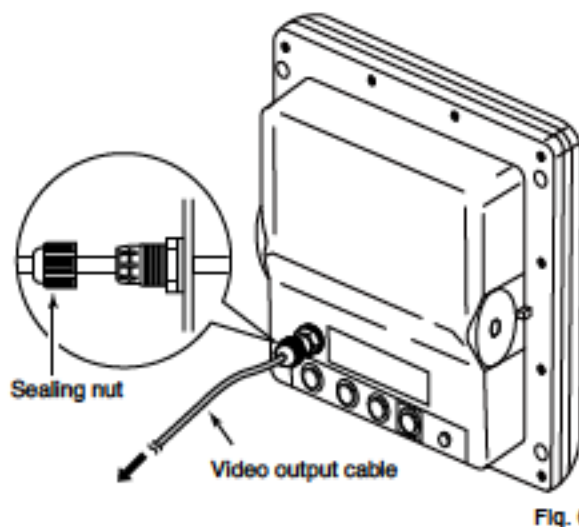

Fig. 6
11. Adjust the video output cable length and then tighten the sealing nut. (Fig. 6)